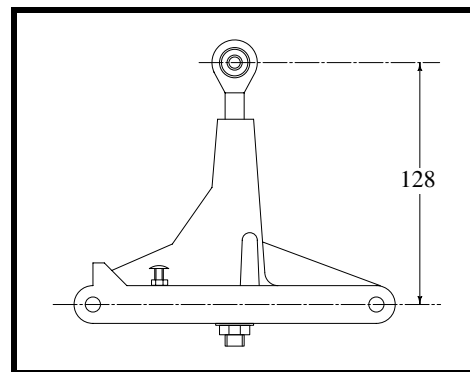

Figure 4
- ❑ Install P/N 605 in P/N 618A. See Drawing No. 105. The approximate installed location of P/N 605 is shown in Figure 4.
- ❑ Install the MS35207-267 screw and AN315-3 check nut (included in the Electrical kit) in P/N 618A upper drag strut. See Figure 4.